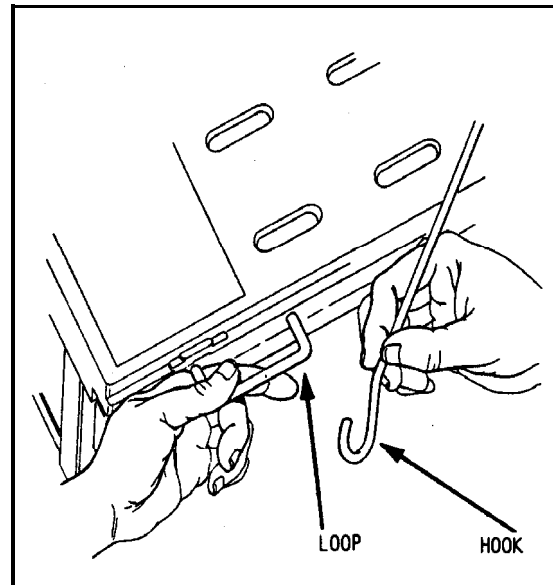

Figure S-30b Version Number 2
- \* On version number 2, the Gum & Mint assembly is held in the loading position by a hook and a loop. One end of the hook is attached to the right side of the door. The loop is mounted on the right side of the Gum & Mint assembly. Use the loop as a handle and raise the Gum & Mint magazine with your left hand. Use your right hand to move the free end of the hook so it catches the loop. This will hold the magazine while you are loading it with product. See Figure S-30b below.